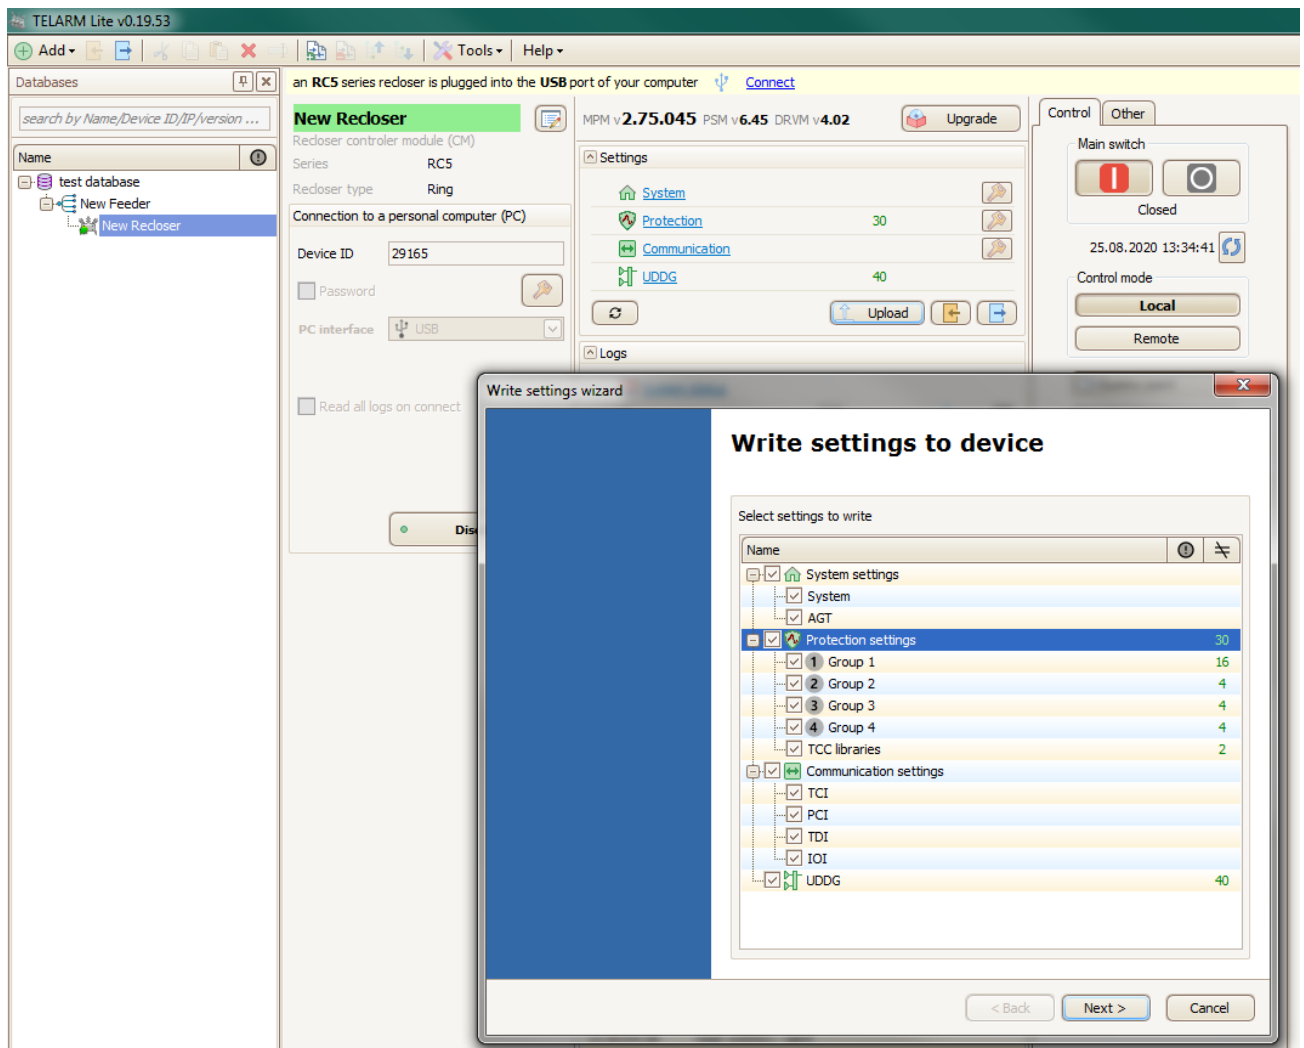

Figure 74
- 3) Select the settings do you want to upload in a pop-up wizard window (Figure 74).